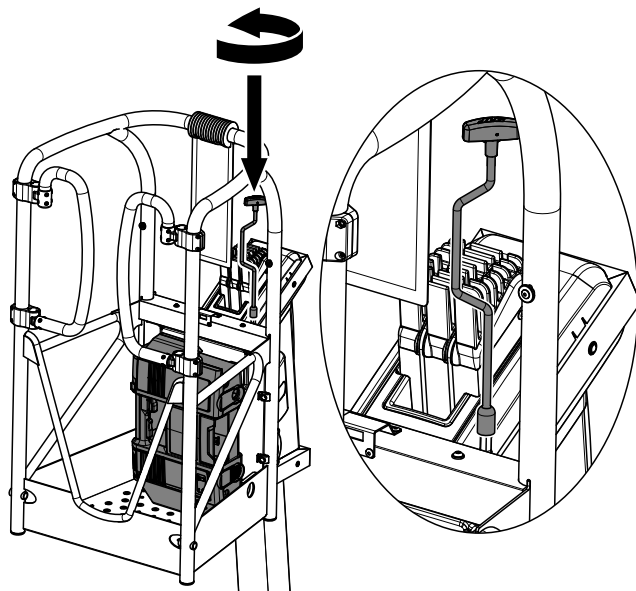

Figure 4-1. Manual descent crank operation from inside platform
1. Remove the cordless drill and place it inside the platform. If the optional powerpack is installed, remove it and place it sideways against the back panel in the platform (see Figure 4-1.).